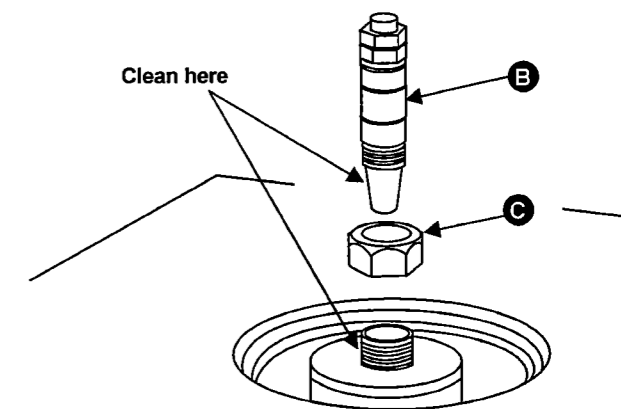
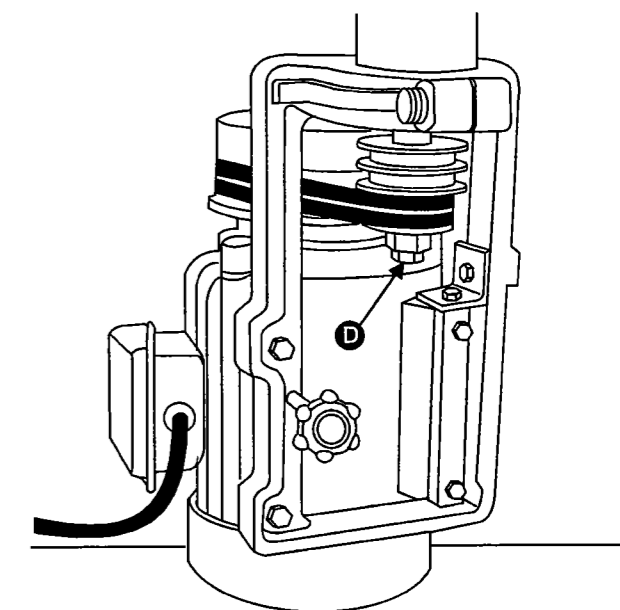

FIGURE 8
FIGURE 9
3. Select the proper size spindle (B) and install the arbor nut (C), Figure 8, by slipping nut over tapered end of arbor and threading the spindle until hand tight.
10. To remove a spindle, loosen the arbor nut (C), Figure 8, then take down the nut on the draw bar (D), Figure 9. Loosen the draw bar by turning 2 or 3 times and use a hammer or other hard material to strike the base of the draw bar to unseat the spindle.